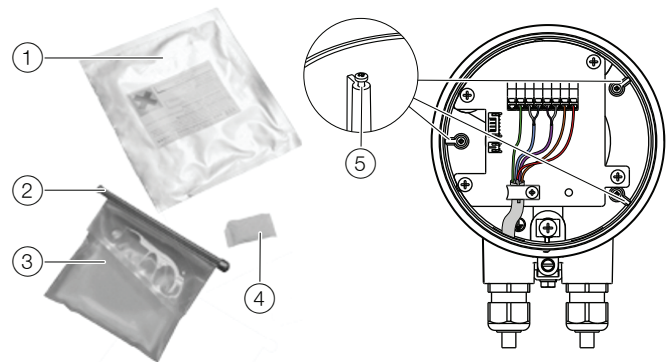

Fig. 34
- Do not overfill the terminal box. Keep the potting compound away from the O-ring and the gasket / groove (see Fig. 34).